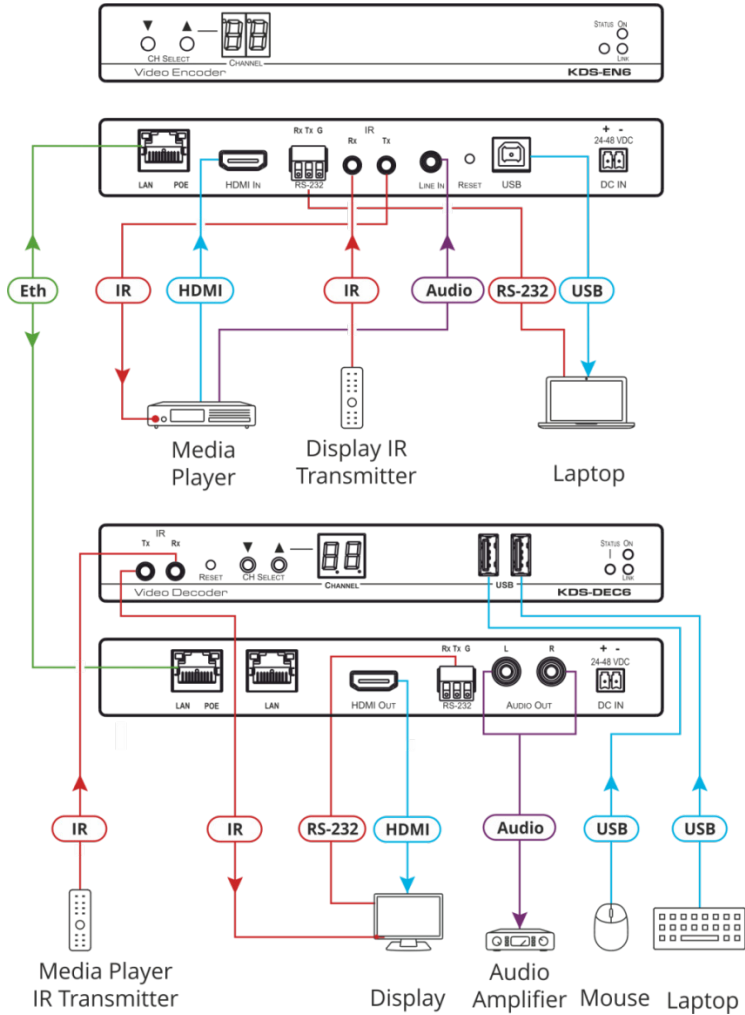

Figure 5: Connecting an Encoder and Decoder System
You can use one **KDS-EN6** device and one **KDS-DEC6** device to configure an encoder and decoder system (see Figure 5).
To connect the encoder and decoder system as shown in the example in Figure 5:
4. If you are not powering the device via PoE, connect the **KDS-DEC6** and the **KDS-EN6** to the 24-48V DC power adapter and connect the adapter to the mains electricity (not shown in Figure 5).